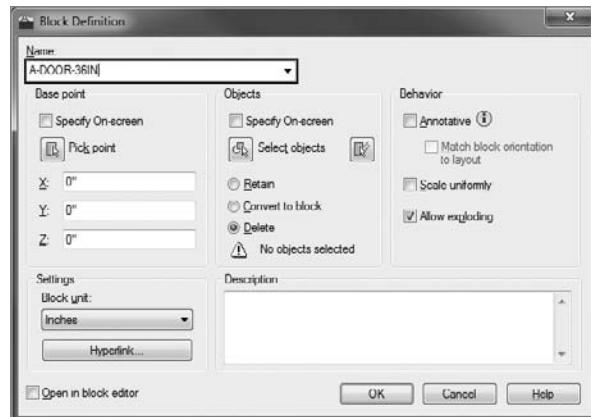

FIGURE 7.3 The Block Definition dialog box
2. Notice the flashing cursor in the Name text box. Type A-DOOR-36IN, but don't press ↵ (see Figure 7.3).